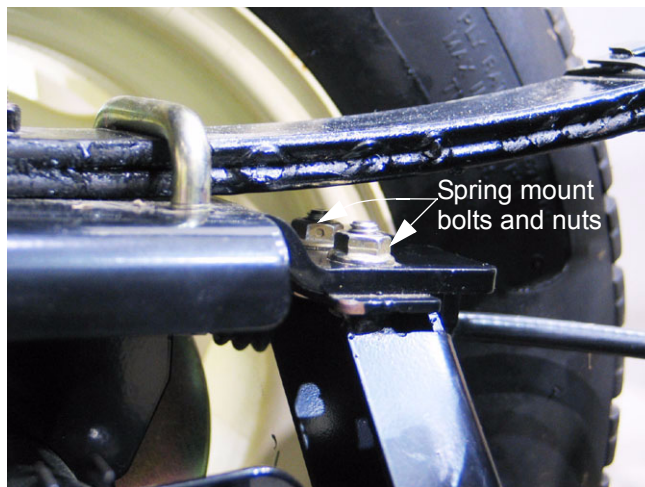

Figure 6.16
- 6.16. Remove the bolts that fasten the spring mounts to the engine and transaxle cradle using a pair of 1/2" combination wrenches. See Figure 6.16.